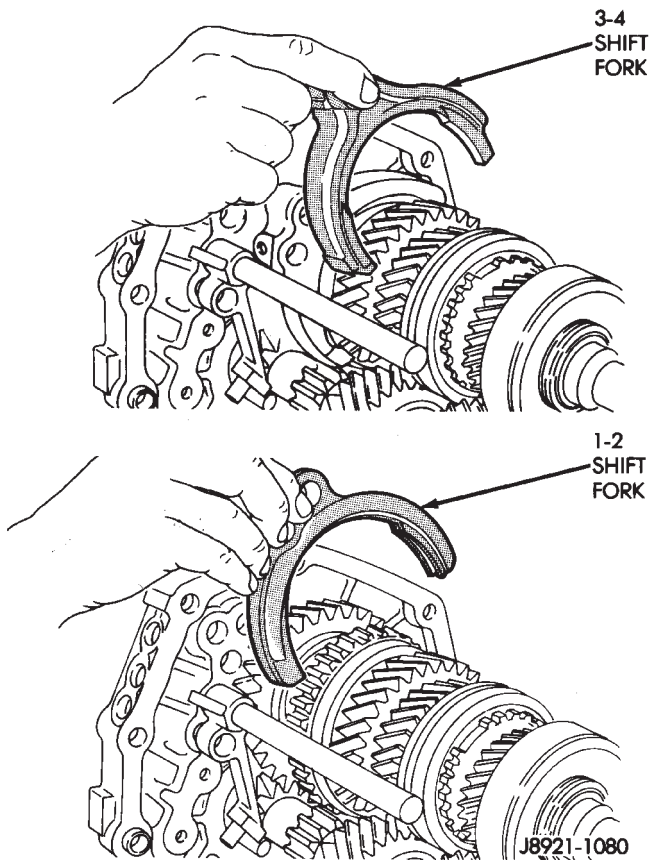
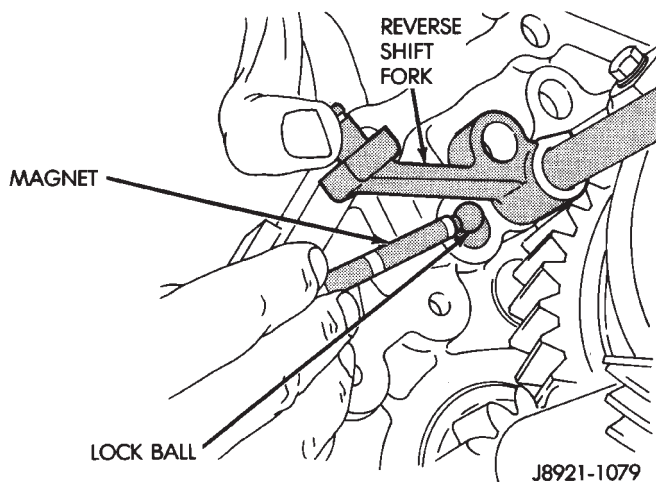

Fig. 88 Shift Fork Installation
Fig. 89 Installing Reverse Shift Rail Lock Ball
(4) Position 1-2 and 3-4 shift forks in synchro sleeves (Fig. 88). (5) Coat reverse rail lock ball with petroleum jelly. Then tilt reverse shift fork upward and insert ball in intermediate plate (Fig. 89).